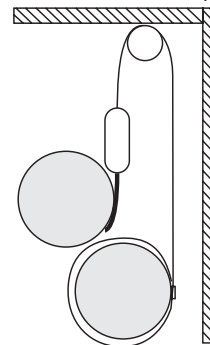

Figure 8
- 14) Carefully pull one side of the draw cable up through one of the Draw Cable Pulleys, then back down and around the back-side of the operator roller. (see Fig. 8) Wrap the cable 1.5 revolutions around the tube. Grip the end of the draw cable between the flat washer and roller tube, then, tighten the nut. **Do NOT** trim draw cables until after step 19.